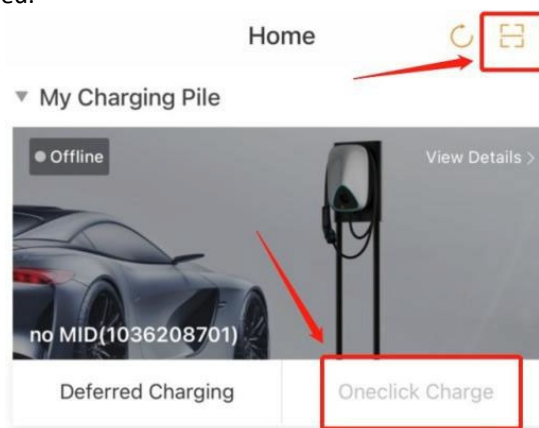

Figure 5-3: Mobile client interface
2. Open "Star Charge" Application (hereinafter can be referred to as APP), click the QR Code scan icon indicated in the upper right corner of Figure 5-3 and scan the QR Code at the bottom right part of the Aurora main body. After successfully bound, click "Oneclick Charge" icon to start charging, as shown in Figure 5-3. When the blue LED light is breathing (gradually on and off), it indicates that the charging process has started.